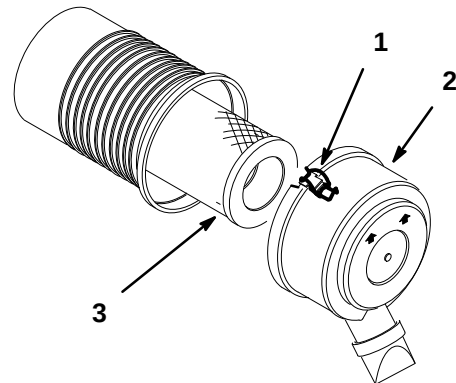

Figure 22
3. Clean around the air cleaner to prevent dirt from getting into the engine and causing damage. Loosen retaining clips and remove air cleaner cover (Fig. 22).
4. Carefully remove filter from compartment (Fig. 22).
1. Carefully slide the element into the compartment (Fig. 22).
2. Place the air cleaner cover onto compartment and latch retaining clips (Fig. 22).